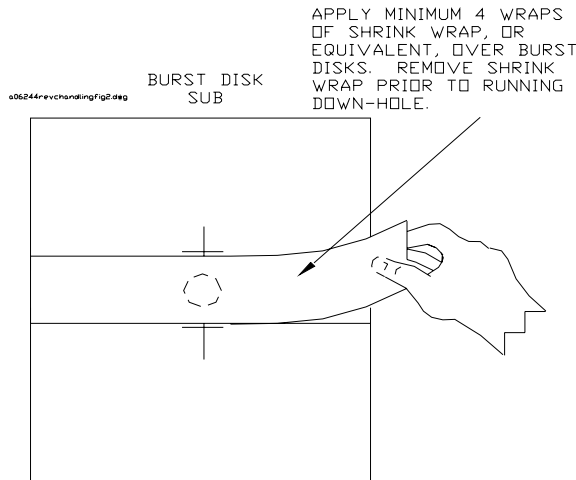

Fig. 1
5.2 Verify that after the installation and testing of burst disc/rupture disc, in accordance with customer requirements as stated in appropriate customer Quality Process Plans, protective materials were appropriately applied to APRS burst disc/rupture disc (i.e. shrink wrap or equivalent, wrapped over burst disc/rupture disc, see 5.3 and Fig.1)
- 5.3.1 Apply shrink wrap or equivalent over burst disc/rupture discs in a circumferential manner, See Fig. 1.